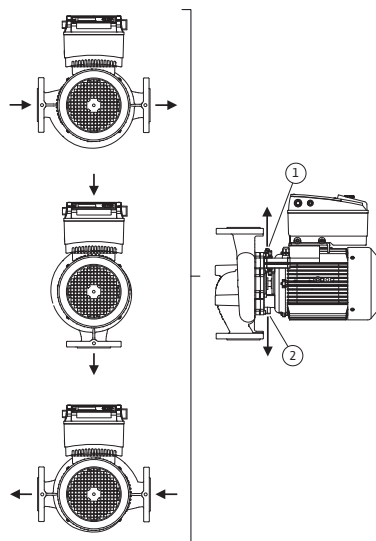

Fig. 18: Permitted installation positions with horizontal motor shaft
The permitted installation positions with horizontal motor shaft and electronic module facing up (0°) are shown in Fig. 18. The permissible installation positions with electronic module mounted on the side ($\pm 90^\circ$) are not shown. Any installation position is allowed except for "electronic module facing down" (-180°). The venting of the pump is only ensured when the air vent valve is pointing upwards (Fig. 18, Item 1).
Only in this position (0°) can condensate be directed away via an existing drilled hole, pump lantern and motor (Fig. 18, Item 2).
- With a horizontal motor shaft, the condensate hole must be positioned towards the bottom (Fig 18, Item 2). If necessary, the motor must be turned accordingly.